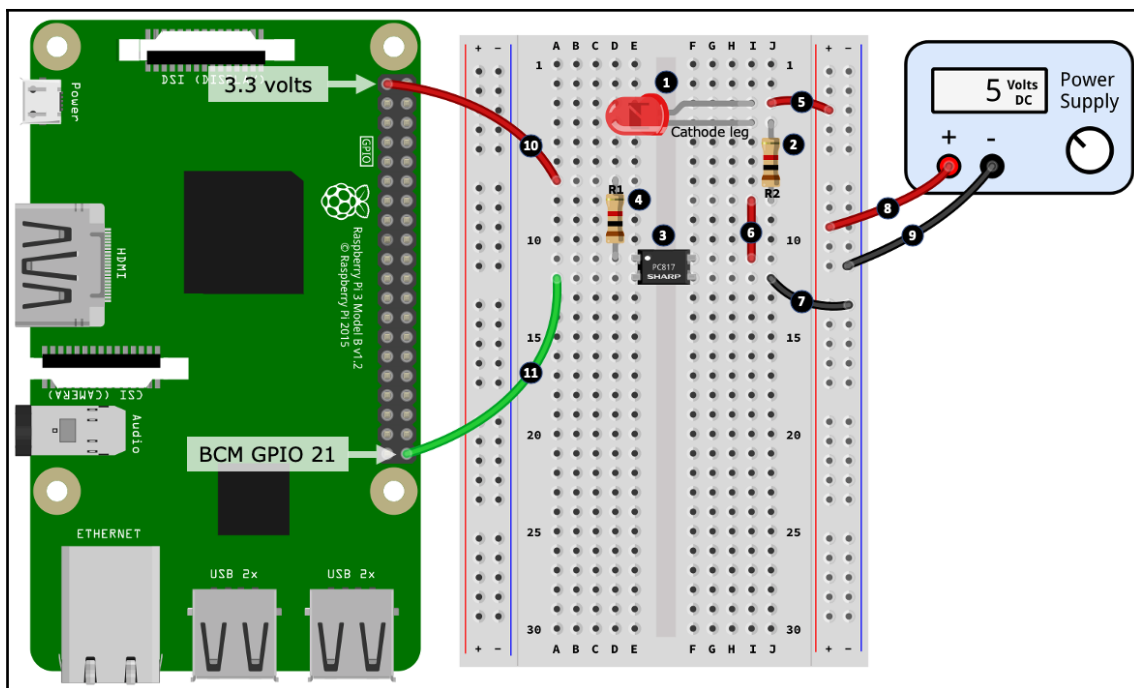

Figure 7.7 – Optocoupler circuit
The step numbers here match the numbered black circles in *Figure 7.7*:
In *Figure 7.7*, you could connect the wires at *steps 8* and *9* (which go to the External Power Supply) directly to your Raspberry Pi's +5-volt pin and a GND pin. We're only using a small amount of current for the red LED, however, for higher current loads, you must use an external power supply. The +5 volt pin on your Raspberry Pi is connected directly to the power supply you are using to power your Raspberry Pi. Using this power supply to power your circuits effectively robs current available to your Raspberry Pi. Take too much, and your Raspberry Pi will reset!
- At line (1), GPIO 21 is low and the internal LED on the *input* side is on. The phototransistor on the *output* side detects this light and is activated, allowing current to flow between the output side's collector (pin 4) and emitter (pin 3), and hence our red LED illuminates.
- The input side of the PC817 circuit is wired as *active low*—that's why at line (1), GPIO 21 is made low to turn the circuit on, and at line (2), GPIO 21 is set to high to turn the circuit off. Alternative wiring would be *active high*. If you want to experiment and change the circuit to be active-high, you would attach the wire from *step 10* in *Figure 7.7* to a GND pin (rather than a 3.3-volt pin), and reverse the `pigpio.LOW` and `pigpio.HIGH` statements in the code.